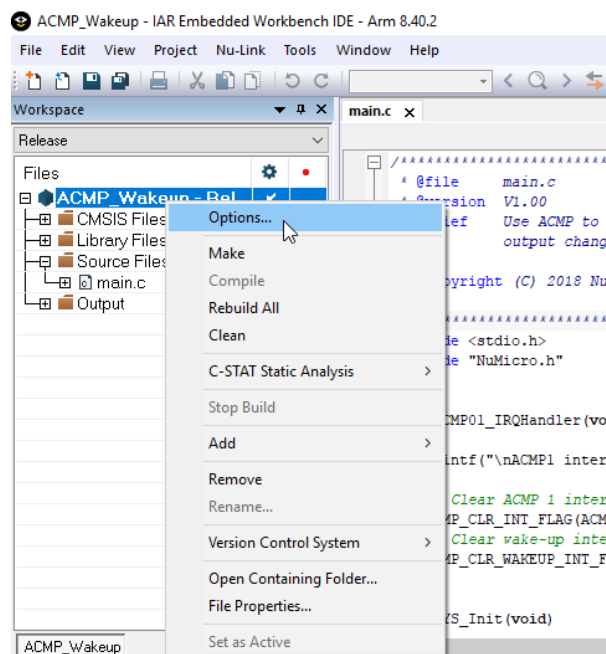
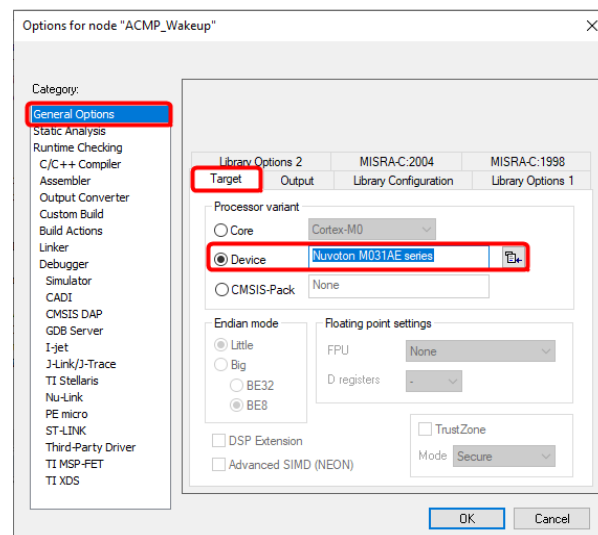

Figure 4-14 Options Selection
Figure 4-15 IAR EWARM Target Chip Selection
- Step 3: In the **Target** tab of the **General Options** page (through invoking **Project** → **Options**), click the button in the right of the **Device** option (make sure the **Device** option is enabled), and select “**Nuvoton** → **Nuvoton M031AE series**” as the target chip (M031AE series is this case), as shown in Figure 4-14 and Figure 4-15.